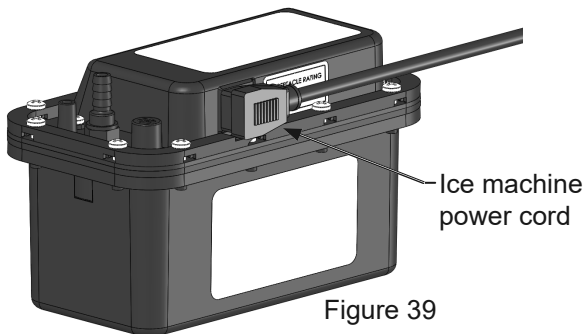

Figure 39
7. Disconnect the ice machine power cord from the drain pump (See Figure 39).